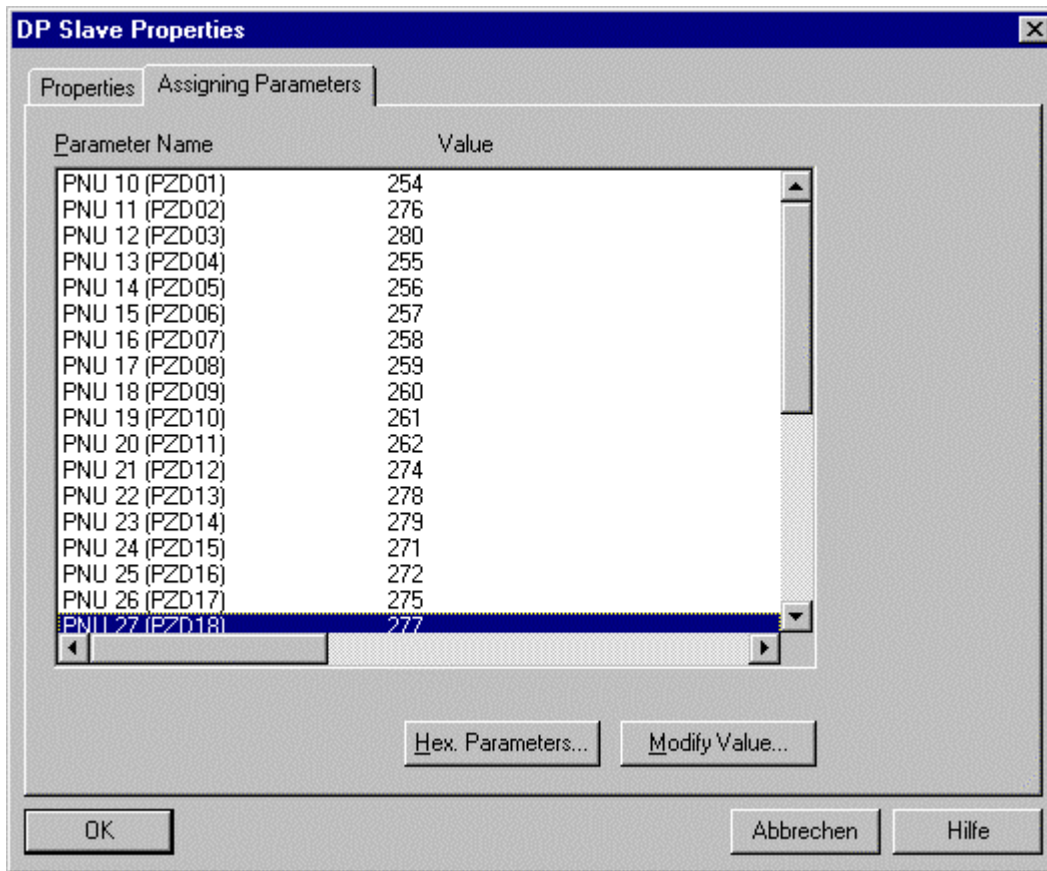

Figure 5
- Double-click the SIPART DR 19 icon and select the **Parameterization** tab. Select the **Change value...** button or double-click the line concerned and then enter a value (Figure 5).